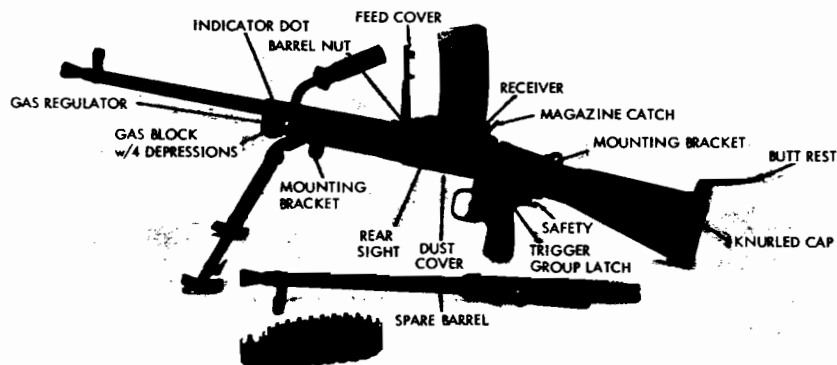

Figure 54. 7.62-mm Vzor 52 light machinegun, box magazine in place.
a. The Czechoslovak-designed-produced Vzor 52 and Vzor 52/57 light machineguns (figs. 54 and 55) are identical except for minor alterations required by the different cartridges they use; the Vz 52 fires the Czechoslovak 7.62 x 45-mm M1952 cartridge, the Vz 52/57 fires the 7.62 x 39-mm M1943 cartridge. Refer to section VI for information concerning ammunition. The two guns can be distinguished from each other by their markings; they will have either "Vz 52" or
a. These guns can be fed from box magazines or metallic-link feed belts. If box magazines are used, close the dust cover (fig. 54), force the side feed cover lever fully down, and press the magazine catch forward until the feed cover springs open. The box magazines are loaded by placing a cartridge between the feed lips and pressing the cartridge down until it rolls under one of the lips. Repeat until 25 cartridges have been loaded. Engage the lip at the front of the magazine, with its recess in the magazine opening of the receiver, and rock the magazine back until the magazine catch snaps into place.
b. If the metallic-link belt is to be used for feeding, load it by sliding cartridges into its loops until the tail of each link snaps into the groove in the cartridge case. Close the feed cover (fig. 54), open the small left-side dust cover, and raise the knurled end of the side feed cover lever to open the feed-way entrance. The top of the lever should be aligned with the top of the feed cover. The belt must be loaded with the open side of the links facing down. Press the lead tab into the
c. Prior to cocking the machinegun, the trigger group can be either forward or rearward, and it may be locked in place by the safety (fig. 54). Unlock the safety by pressing it down. If the trigger group is in its forward position, draw it rearward (without touching the trigger) until it catches. If it is rearward, depress the conical trigger group latch (fig. 54), slide the trigger group forward as far as possible, release the latch, and, without touching the trigger, draw the trigger group to the rear until it latches in place. Caution: The machinegun is now ready to fire!
g. To fire, press the safety (fig. 54) down; then aim--using a normal sight picture--and press the trigger. If the top of the trigger (marked "I") is pressed, only one shot will be fired; if the bottom of the trigger (marked "D") is pressed, the gun will fire automatically.
b. Lift the butt rest (fig. 54) and press in and rotate counterclockwise the knurled cap under the butt rest until the cap disengages and can be eased out to the rear. Pull the driving spring and rod out of the buttstock.